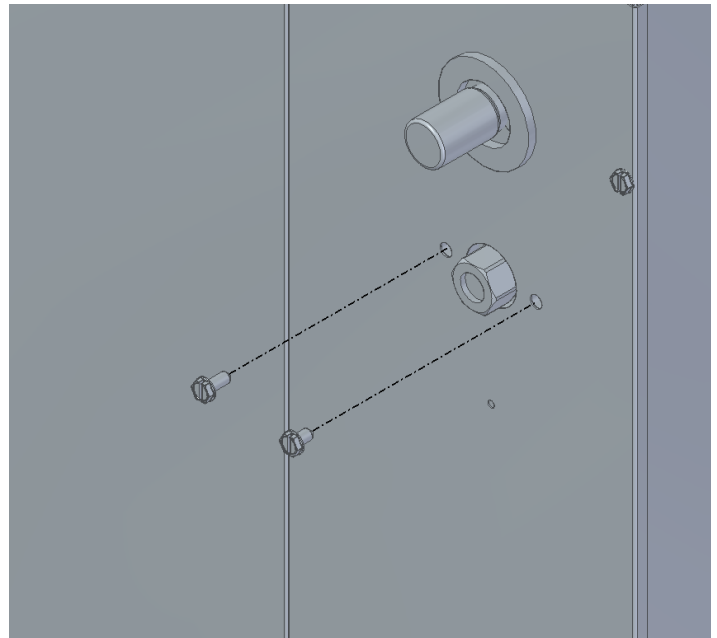

FIGURE 1
2. To slide the coil out of the cabinet, make sure to remove both screws indicate by Figure 1.